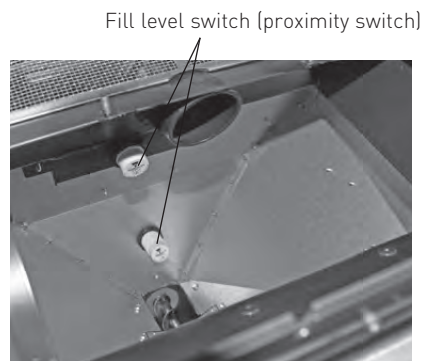

Fig. 144 Folding open the inspection cover, removing dust
- Remove dust (bridge formation) from the container and from both Fill level switch (proximity switch) using a vacuum cleaner – Fig. 144.